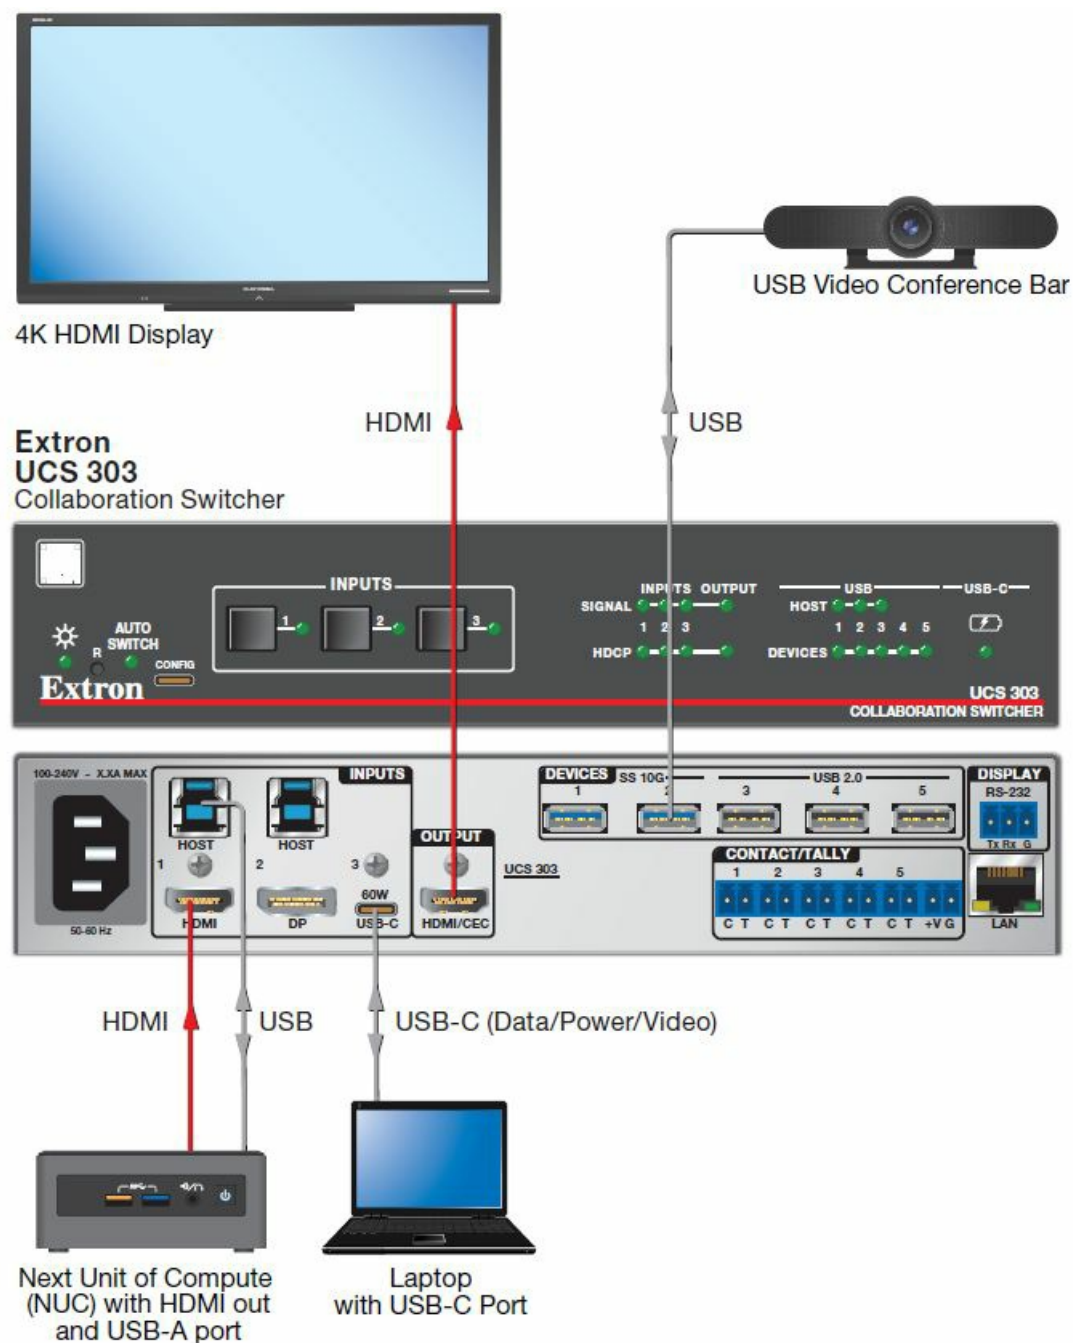

Figure 4. Application Example for UCS 303
- Figure 4 shows an example of how the UCS 303 may be connected.